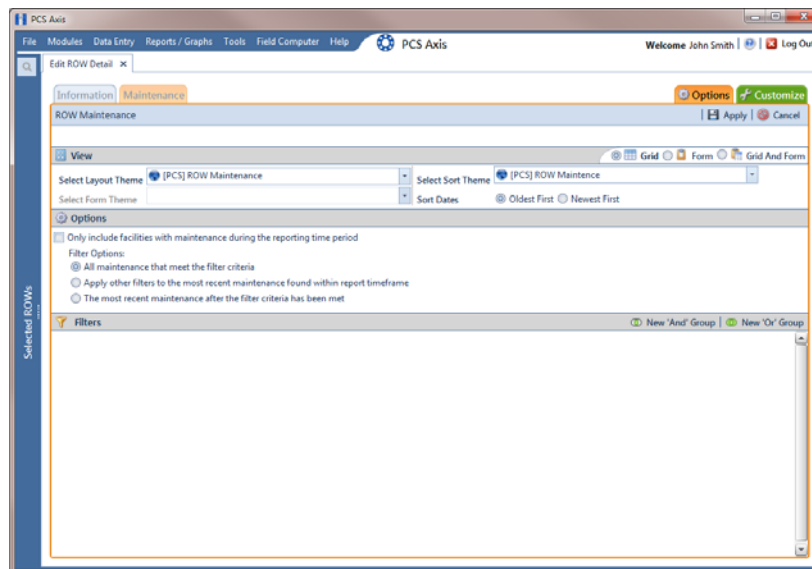

Figure 4-47. Options/Maintenance Grid
- 2 Click the **Maintenance** tab , then the **Options** tab  **Options** to open the *Options* page (Figure 4-47).